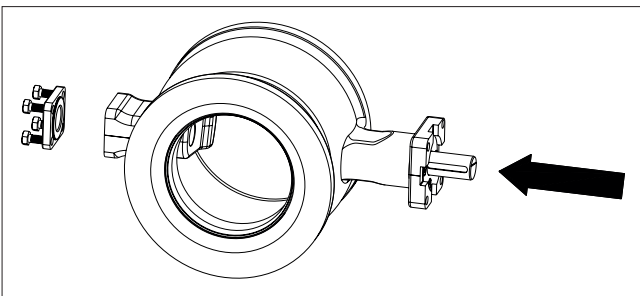

Fig. 22 Removing the blind flange
- In DN 65-100 valves (excluding the low-Cv versions), unfasten the blind flange (10) and push the segment into the back position, Fig. 22.